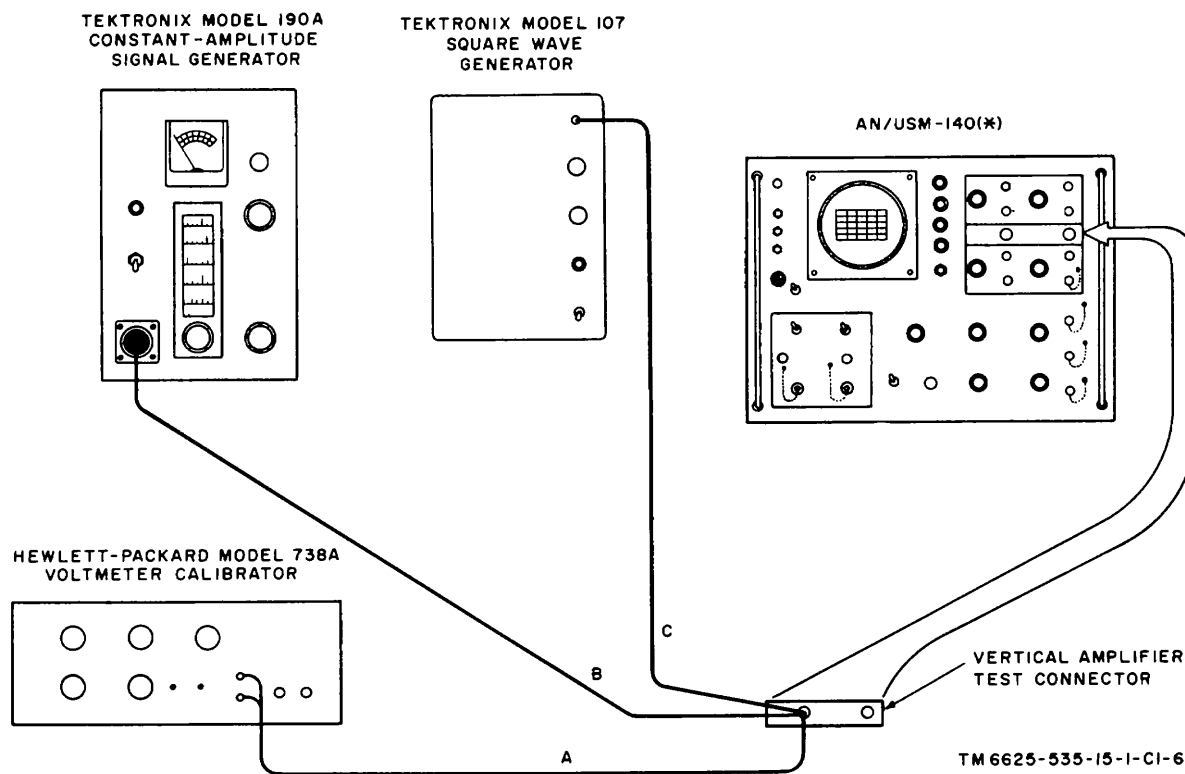

Figure 7-6. Main vertical amplifier test.
a. Remove the vertical plug-in unit and insert the main vertical amplifier test connector, fabricated in paragraph 7-4, as shown in A, figure 7-6.
- (1) HORIZONTAL DISPLAY: X1.
- (2) SWEEP TIME: 2 MILLISECONDS/ CM.
- (3) TRIGGER SOURCE: INT.
- (4) SWEEP MODE: PRESET.
- (5) TRIGGER LEVEL: 0.
d. Connect the equipment as shown in B, figure 7-6. Adjust the constant amplitude generator for a 50-kc output. Adjust the amplitude of the constant amplitude signal generator output to achieve a 4-cm deflection on the crt.
f. Connect the equipment as shown in C, figure 7-6. Set the controls of the oscilloscope as follows:
- (1) HORIZONTAL DISPLAY: X5.
- (2) SWEEP TIME: .1 MICROSECOND/ CM.
- (3) TRIGGER LEVEL: +.